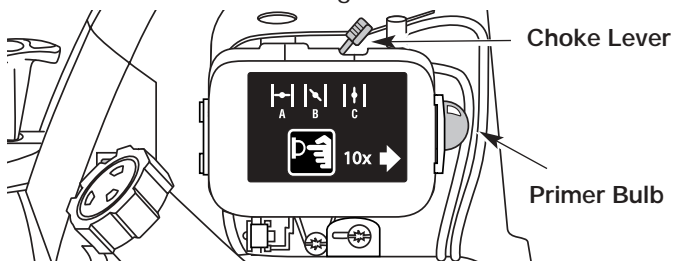
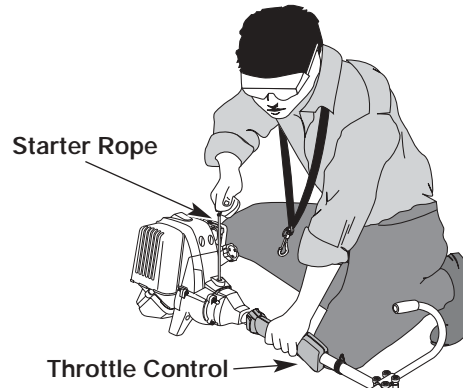

Figure 21
Figure 22
4. Place the choke lever in the **FULL choke (A) |←|** position. See Figure 21.
**NOTE:** Slide the choke lever directly above the appropriate symbol on filter cover decal. See Figure 21.
5. Fully press and release the primer bulb slowly 10 times until **FUEL IS VISIBLE IN THE PRIMER BULB**. If you can't see fuel in the bulb, press and release the bulb as many times as it takes before you can see fuel in it. See Figure 21.
7. With the unit in the starting position and the choke in the **FULL (A) |←|** position, pull the starter rope briskly 5 times. If the engine attempts to run before the fifth pull, proceed to step 8.
8. Move the choke lever to the **PARTIAL (B) |↘|** position. See Figure 21.
**NOTE:** The engine will not run in the **FULL choke (A) |←|** position.
10. Move the choke lever to the **RUN (C) |↑|** position and run at full throttle for 30 seconds.
**WARNING:** Avoid accidental starting. Make sure you are in the starting position when pulling the starter rope. See Figure 22. To avoid serious injury, the operator and unit must be in a stable position while starting.
2. Move the choke lever to the **PARTIAL (B)** position. See Figure 21.
3. Fully press and release the primer bulb slowly 10 times until **FUEL IS VISIBLE IN THE PRIMER BULB**. If you can't see fuel in the bulb, press and release the bulb as many times as it takes before you can see fuel in it. See Figure 21.
5. With the unit in the starting position, pull the starter rope briskly until the engine starts. See Figure 22.
6. When the engine starts, move the choke lever to the **RUN (C)** position, and run at full throttle for 30 seconds.
1. Release your hand from the throttle control. See Figure 22. Allow the engine to cool down by idling.